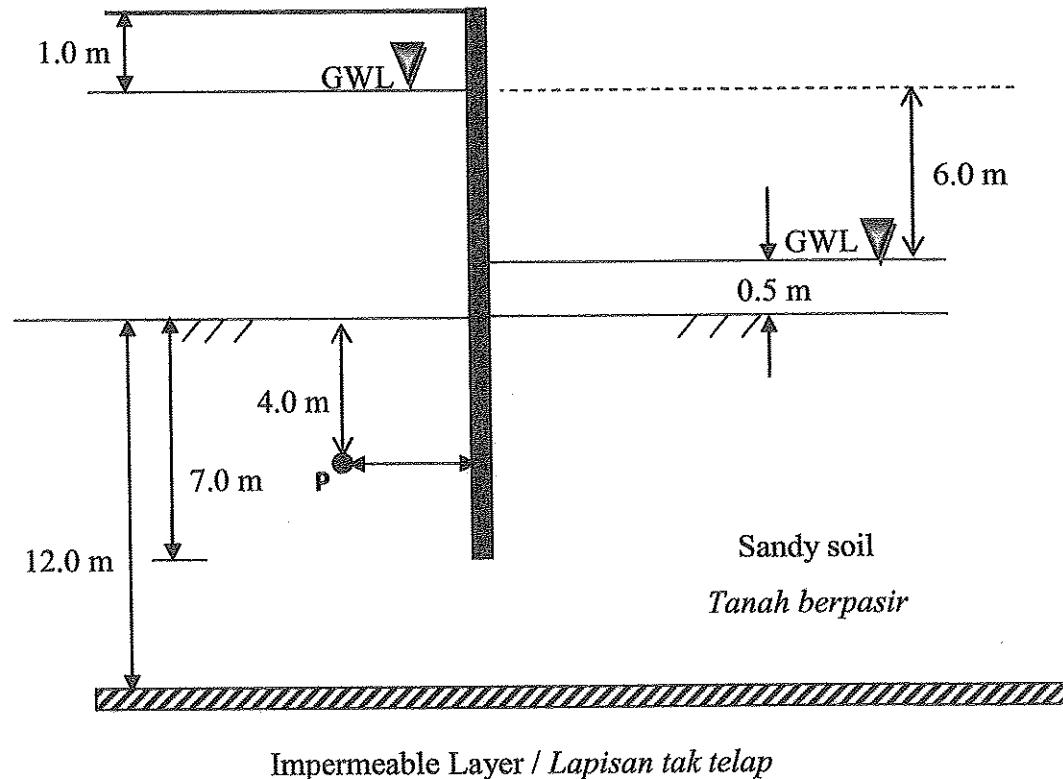

Figure B4(b)/Rajah B4(b)
- (a) Figure B4(b) below shows one dig of sheet piling on sandy soil. If the coefficient of permeability (k) is 7.3×10^{-3} mm/sec. Determine: